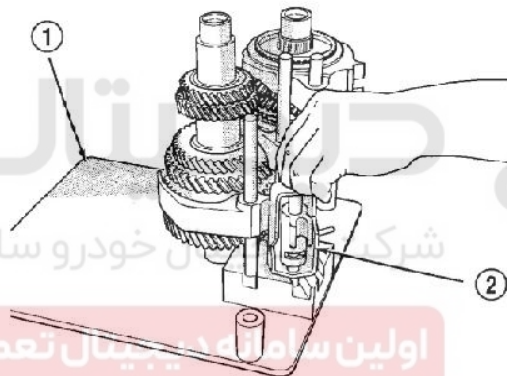

Figure 3-62 Assembly of shift block
(3) Insert the shift block assembly in plate jig (Figure 3-62).